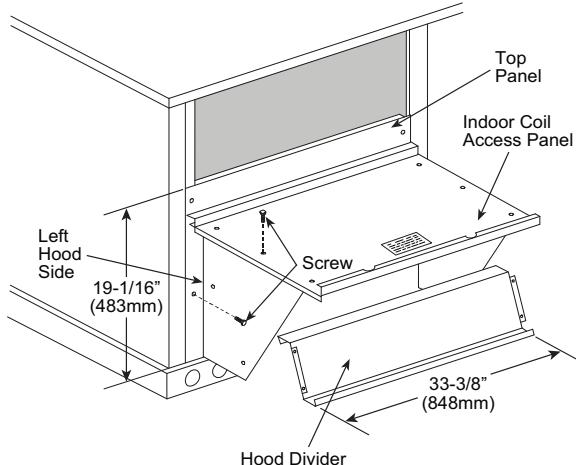

Fig. 13 — Economizer Hood Construction
- Swing out indoor coil access panel and insert the hood sides under the panel (hood top). Use the screws provided to attach the hood sides to the hood top. Use screws provided to attach the hood sides to the unit. See Fig. 13.
- Insert the hood divider between the hood sides. See Fig. 13 and 14. Secure hood divider with 2 screws on each hood side. The hood divider is also used as the bottom filter rack for the aluminum filter.